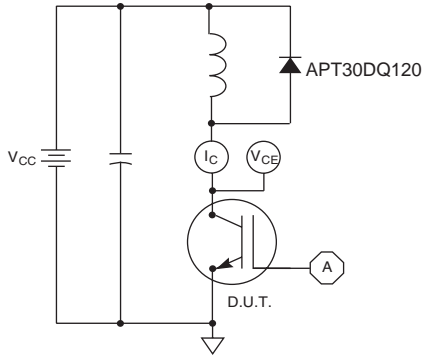

Figure 21, Inductive Switching Test Circuit
① Repetitive Rating: Pulse width limited by maximum junction temperature.
② For Combi devices,  $I_{ces}$  includes both IGBT and FRED leakages.
③ See MIL-STD-750 Method 3471.
④  $E_{on1}$  is the clamped inductive turn-on energy of the IGBT only, without the effect of a commutating diode reverse recovery current adding to  $z$  a the IGBT turn-on loss. Tested in inductive switching test circuit shown in figure 21, but with a Silicon Carbide diode.
⑤  $E_{on2}$  is the clamped inductive turn-on energy that includes a commutating diode reverse recovery current in the IGBT turn-on switching loss. (See Figures 21, 22.)
⑥  $E_{off}$  is the clamped inductive turn-off energy measured in accordance with JEDEC standard JESD24-1. (See Figures 21, 23.)
⑦  $R_G$  is external gate resistance not including gate driver impedance.